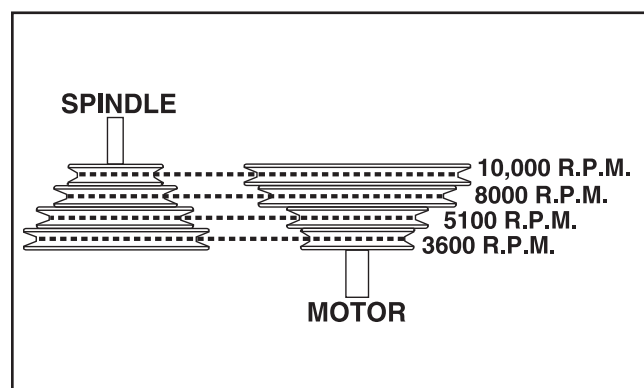

Figure 26. Spindle speed adjustment.
3. Select the desired speed. There are four speeds: 3600 RPM, 5100 RPM, 8000 RPM, 10,000 RPM. **Figure 26** shows the belt positions for each available speed.